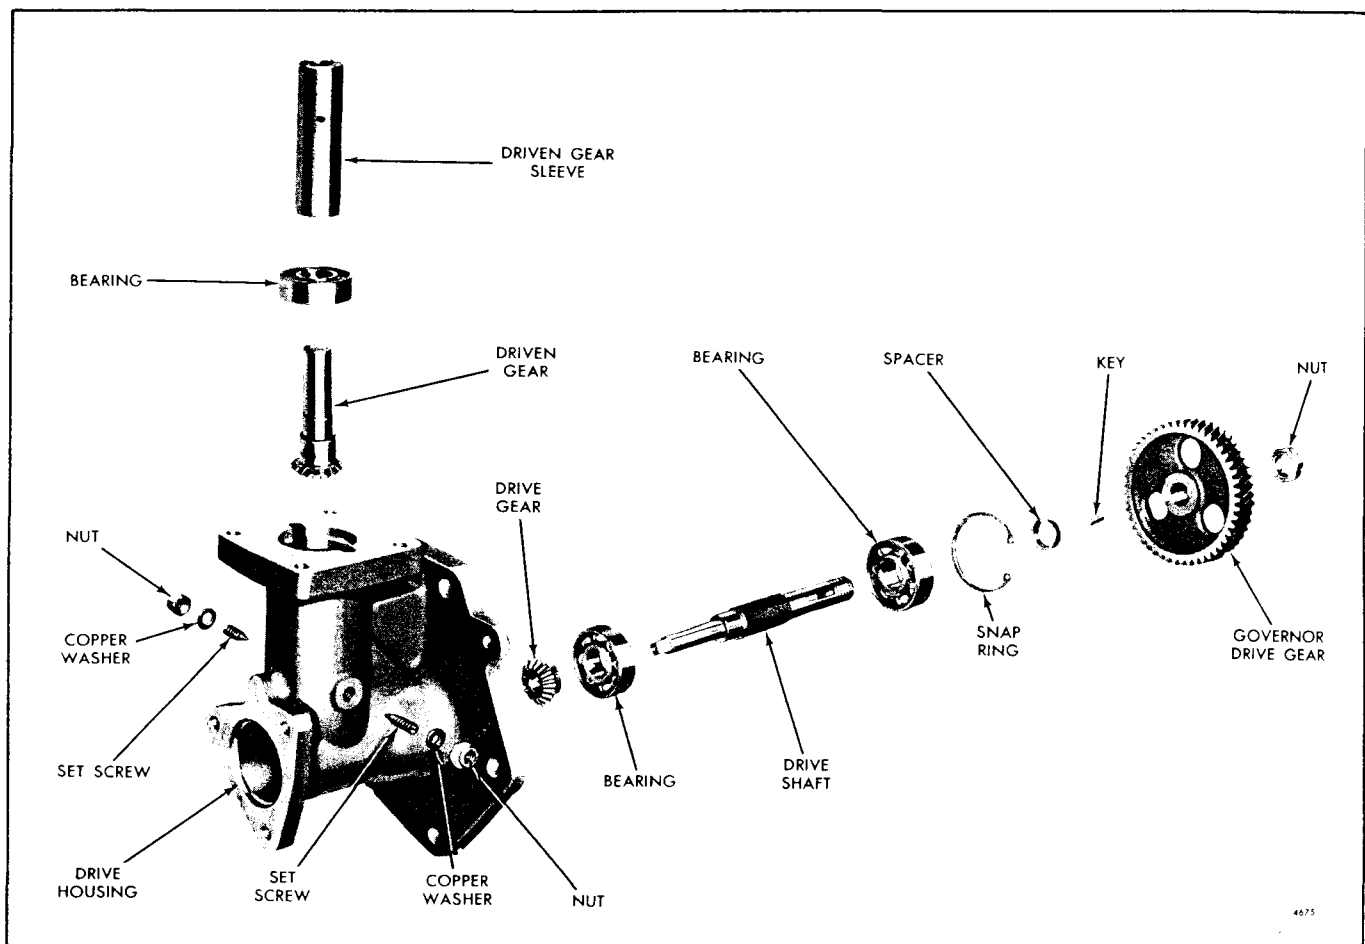

Fig. 3 - Hydraulic Governor Drive Details and Relative Location of Parts
4. Loosen the two driven gear bearing retaining set screw lock nuts (Fig. 3), then back the set screws out of the housing enough to free the bearing.